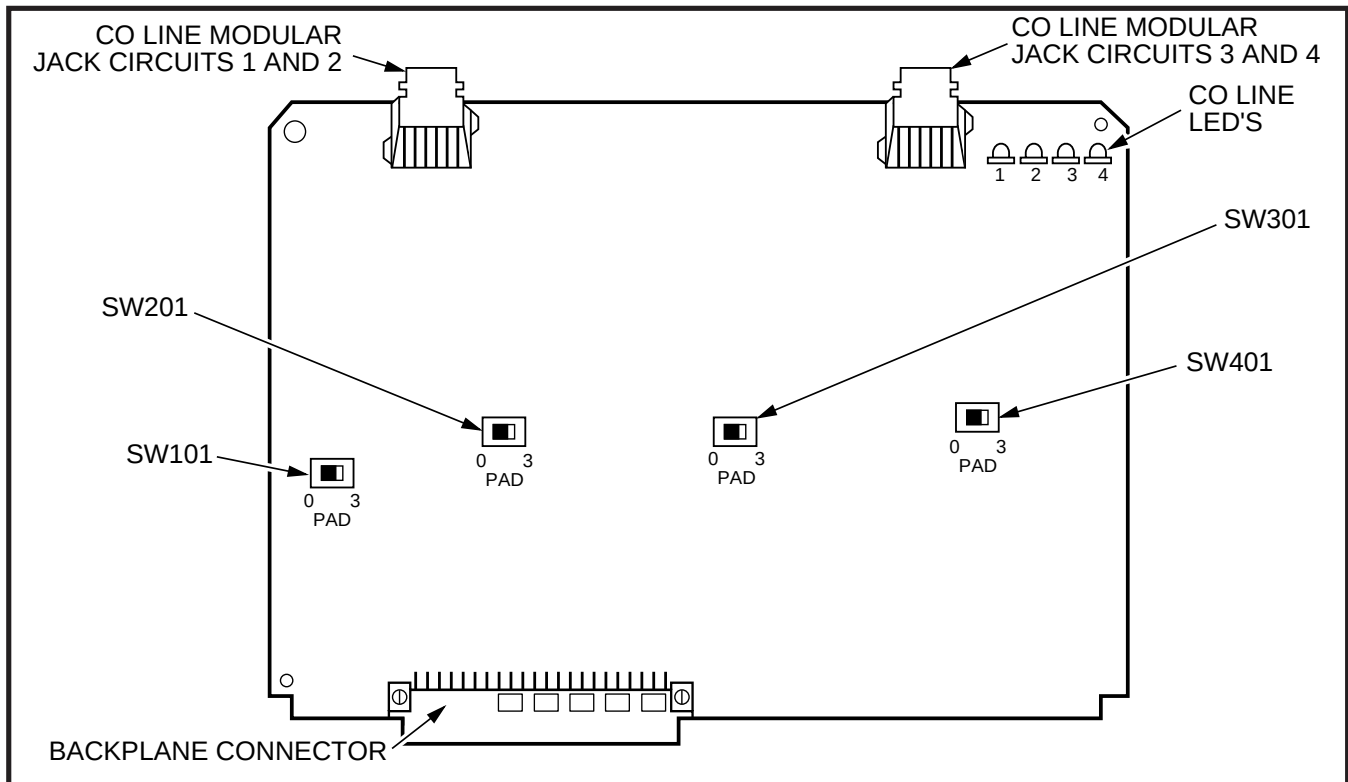

FIGURE 6-9
8.02 PCOU controls, indicators, and interface connectors are shown in Figure 6-9 and described in Table 6-E.